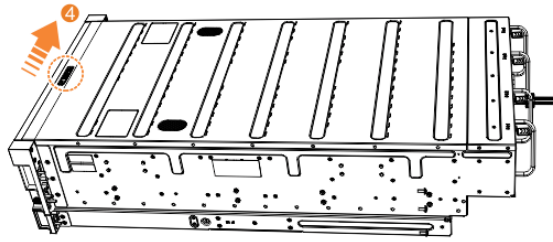

Figure 126. Locking the top cover
10. Lock the cover into position by sliding the release lever (4), as shown in Figure 126 on page 176